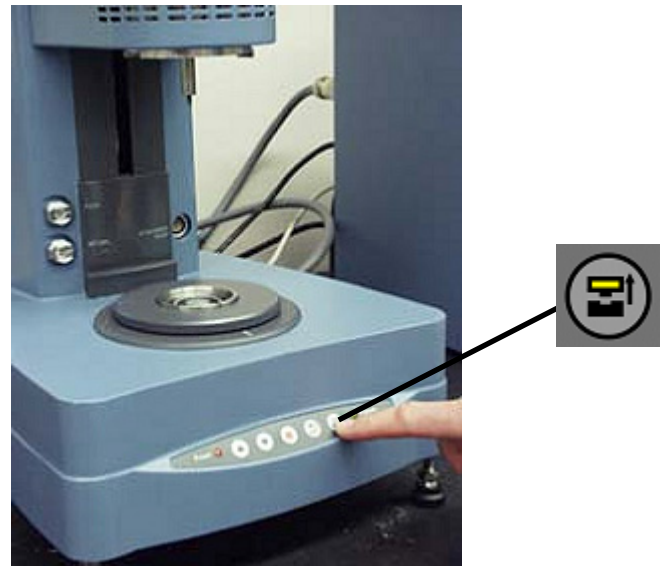

Figure 5.5
1. Press the '**Release button**' on the control panel as seen in Figure 5.5. A continuous green light indicates that the attachment can be fitted.